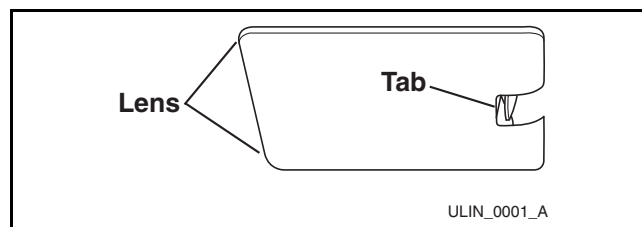

Figure 41
1. Grasp the edges of the light housing lens opposite the exposed tab, and gently push the lens towards the tab (**Figure 41**).